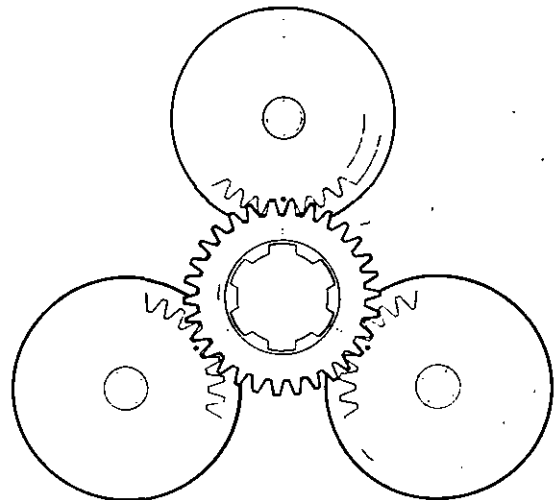

FIGURE 48 ASSEMBLING PLANETARY GEARS
44. Install the planet gears on the pins, turn them so that the centre punch marks are toward the centre. See figure 48.